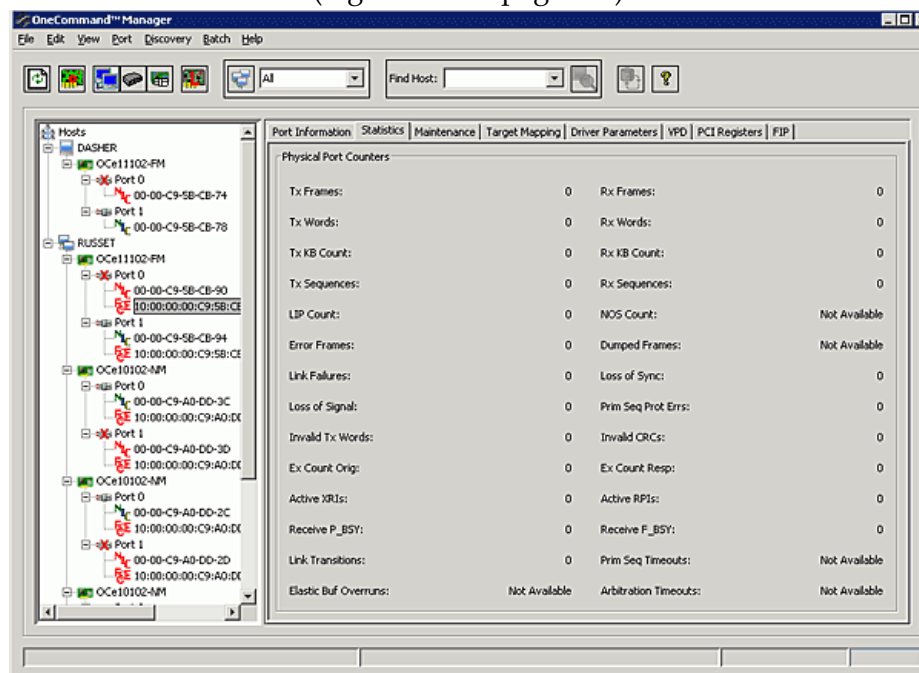

Figure 8-8 Statistics Tab
When you select an FC port or FCoE function from the discovery-tree, the Statistics tab (Figure 8-8 on page 127) provides cumulative totals for various error events and statistics on the port. Some statistics are cleared when the adapter is reset.
3. Select the **Statistics** tab (Figure 8-8 on page 127).